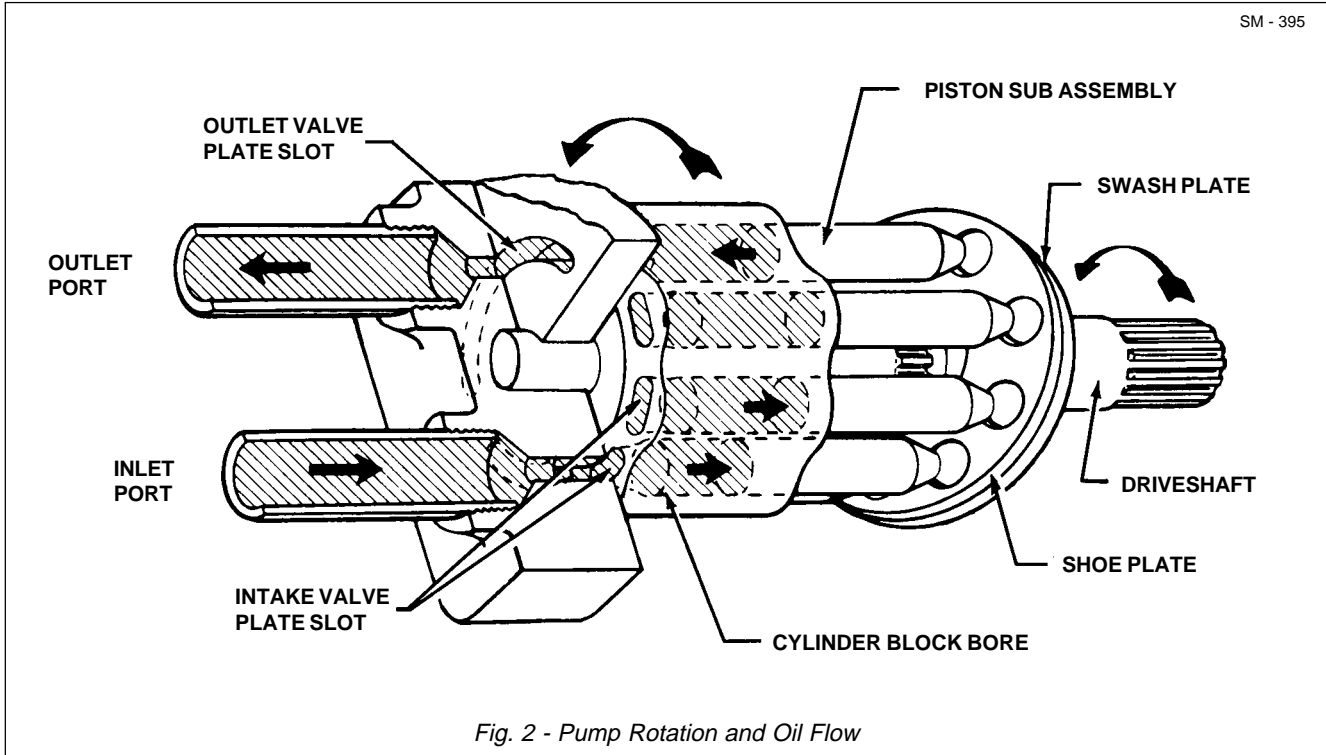

Fig. 2 - Pump Rotation and Oil Flow
Rotation of pump drive shaft (1) causes the rotating group cylinder block (5), shoe plate (14) and pistons (6) to rotate (refer to Figure 2). The piston shoes (7) are located against the swash plate (15) via the shoe plate